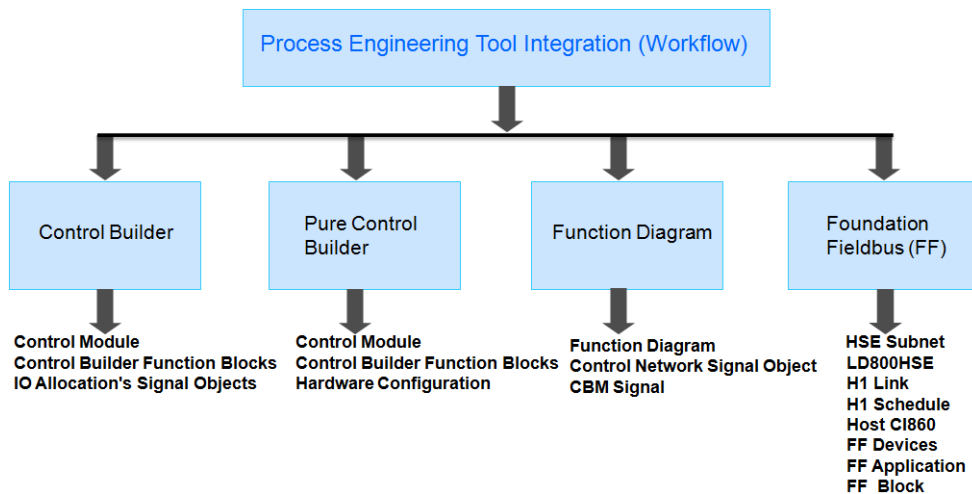

Figure 5. Workflow
There are four workflows that can be used (Figure 5) when configuring 800xA:
Foundation Fieldbus (FF) workflow in Figure 5 applies to the System 800xA 5.1 Feature Pack release only.